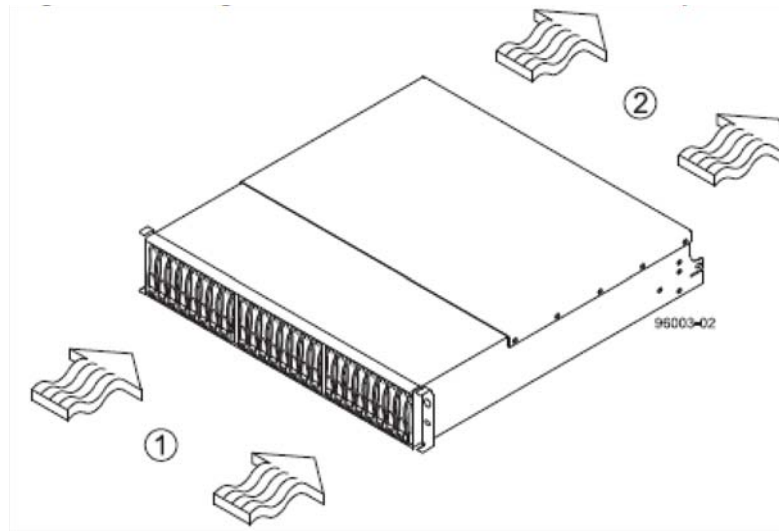

Figure 2-24 IS2224 JBOD Enclosure Airflow Example
Use two people whenever installing the IS2224 JBOD enclosure as the unit can weigh up to 40 lbs (18.1 kg). Be sure the airflow through the unit matches with other components installed in the rack, Figure 2-24 shows the airflow pattern from the front (1) to the rear (2).